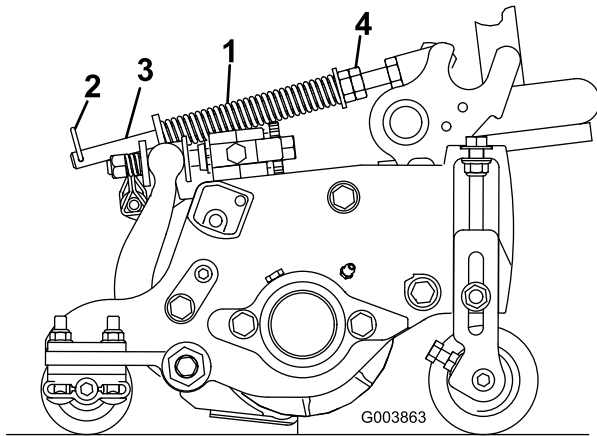

Figure 16
1. Make sure the hairpin cotter is installed in the rear hole in the spring rod (Figure 16).
2. Tighten the hex nuts on the front end of the spring rod until the compressed length of the spring is 6.25 inches (15.9 cm) (Figure 16).
Note: If the cutting unit must be removed from the machine, move the hairpin cotter to the front hole in the spring rod (Figure 16). Make sure to move the hair pin cotter back to the rear hole in the spring rod after the cutting unit is reinstalled to the machine.